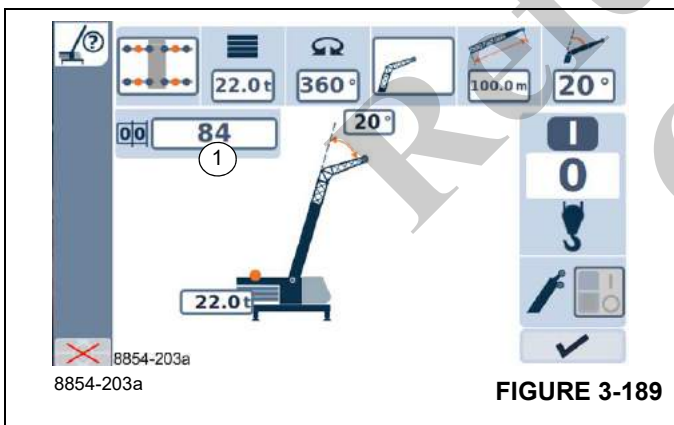

FIGURE 3-189
Select number (1), (Figure 3-189) and using the arrow buttons on the control panel or the jog dial enter the RCL code and confirm.